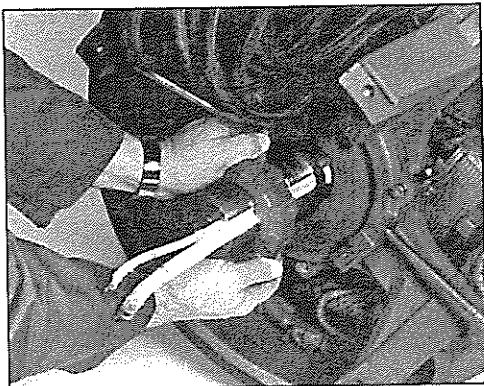

Figure 6-66
2. Slide PMG rotor onto shaft (figure 6-66).